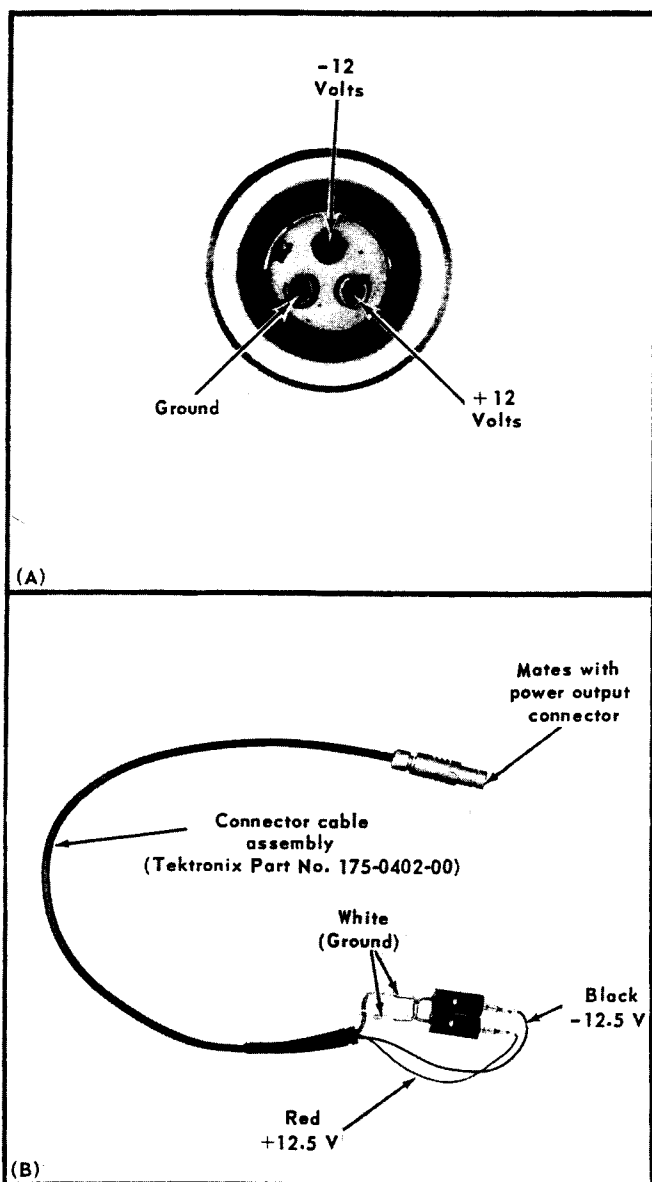

Fig. 4. Power output connector of Accessory Power Supply and suggested 150 mA test load.
2. Dummy test load for loading the Power Supply outputs. The dummy load should be designed to draw 150 mA from each supply. This is equivalent to an 80-ohm 2-watt resistor connected from each supply to ground. See Fig. 4 for the required connections. An instrument such as the P6045 Probe that is compatible with the Accessory Power Supply may be substituted but will not completely check the Power Supply according to the 150-mA specification.